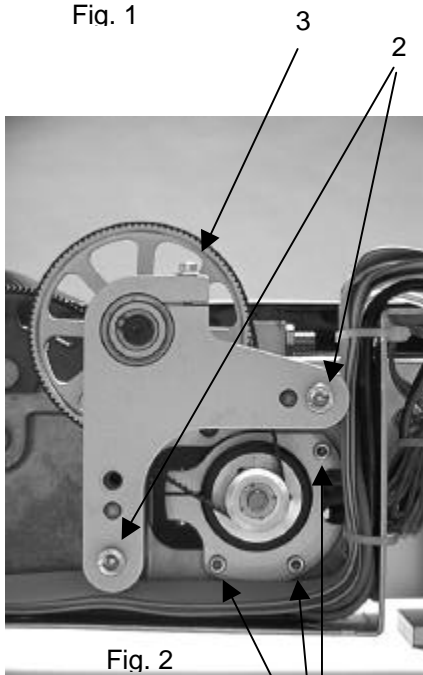

Fig. 2
1. Loosen motor support (Fig. 2/1).